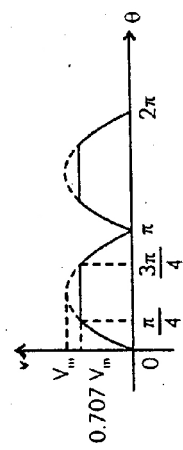

Fig. 2.9
9. A full wave rectified wave is clipped at 70.7% of its maximum value as shown in Fig. 2.9. Find its average and rms value.